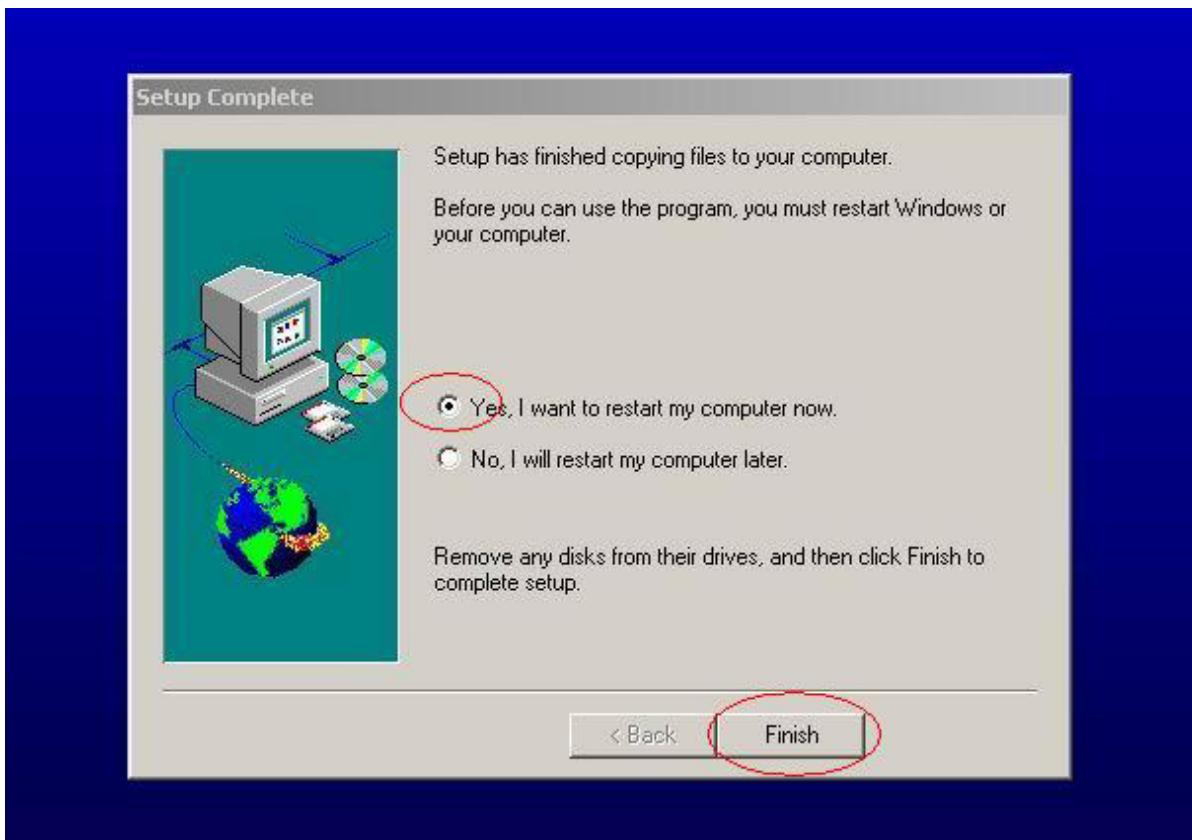

Fig. 0.5
- When the installation is complete, restart the PC or notebook; see Fig 0.5.